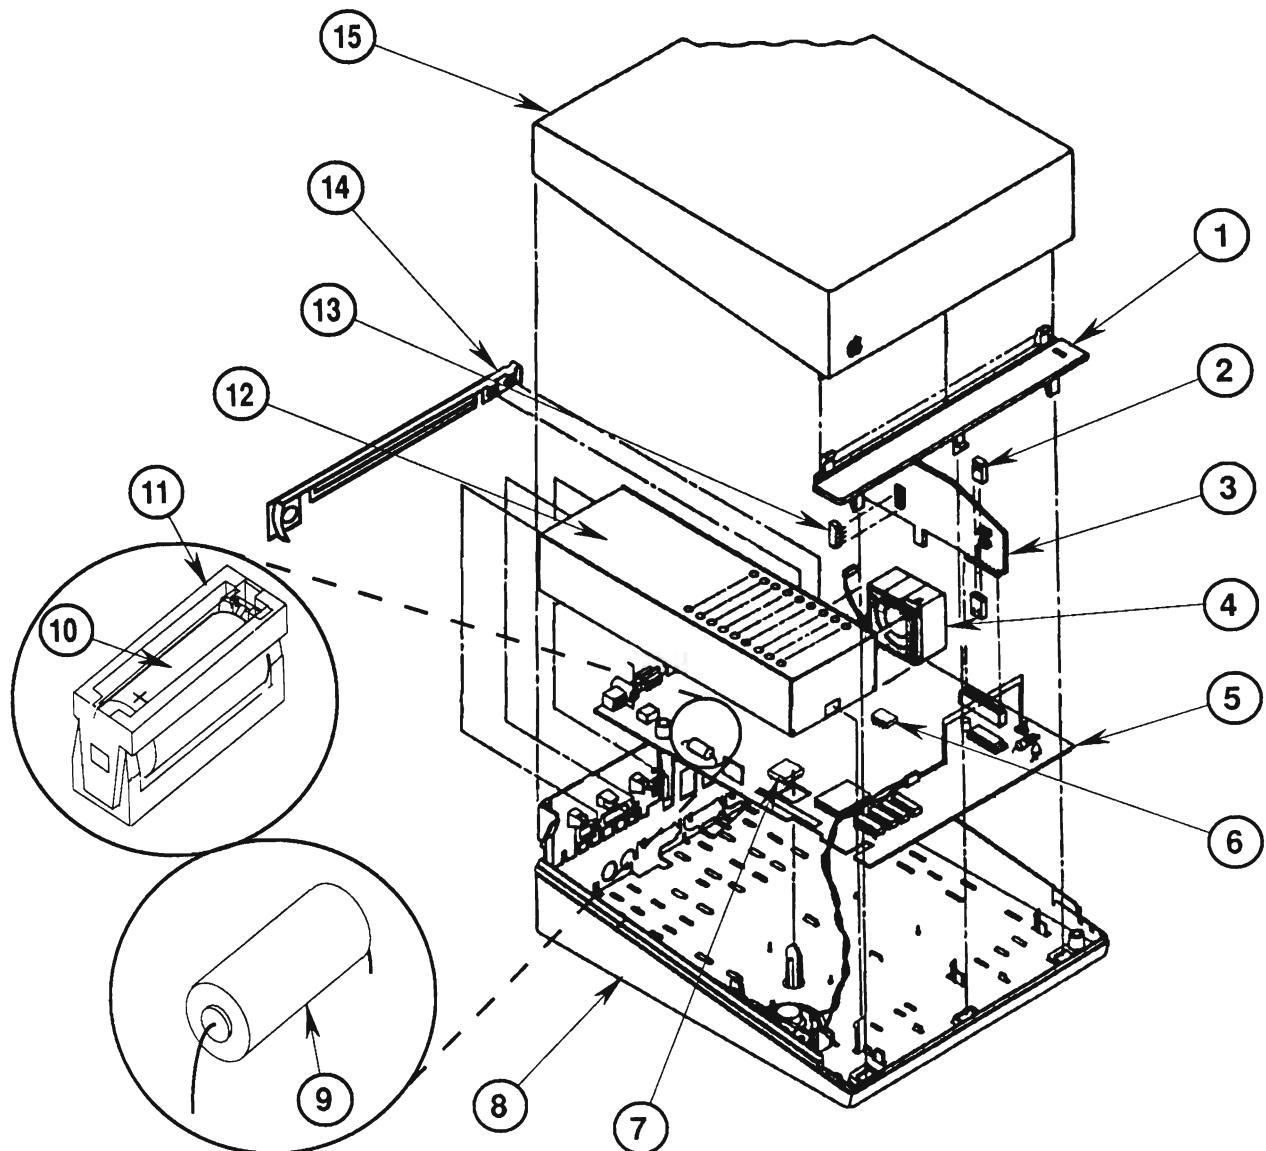

FIGURE 1
- IPL.3 Main Assembly (Figure 1)
APPLE IIGS—MAIN ASSEMBLY (Figure 1)